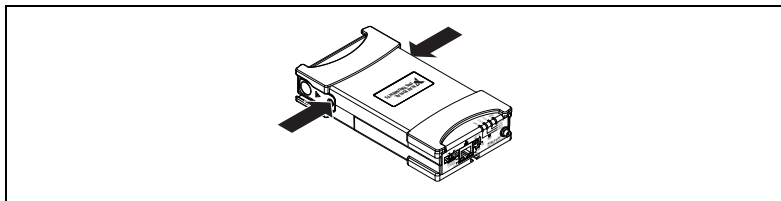

Figure 2. Locking Module into Place
- Press firmly on the connector side of the C Series I/O module until the latches lock the module into the NI WLS/ENET-9163 carrier, as shown in Figure 2.